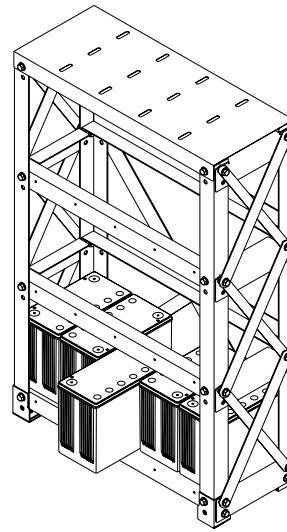

Figure 8.5a
- Install blocs on supports beginning at the bottom tier. Push each bloc back as far as possible on each tier. Work up the rack, see Figures 8.5a & b.